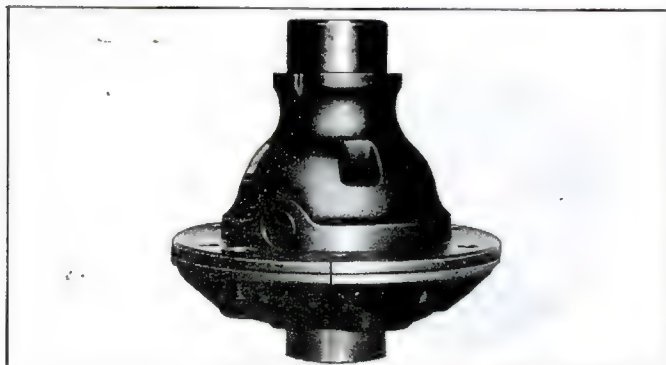

Fig. 55—Alignment Marks
3. Chisel or punch alignment marks on case and cover before separating (fig. 55).